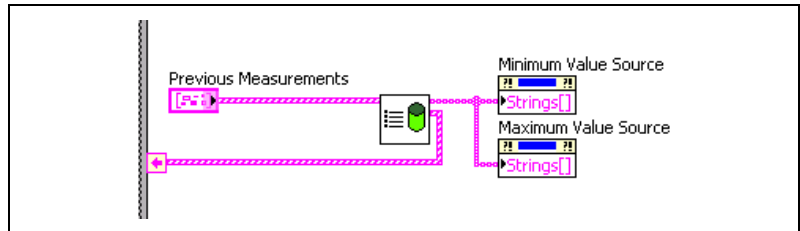

Figure 5-4. Enumerating a List of Previous Measurements
2. Complete the following steps to build the block diagram illustrated in Figure 5-4: